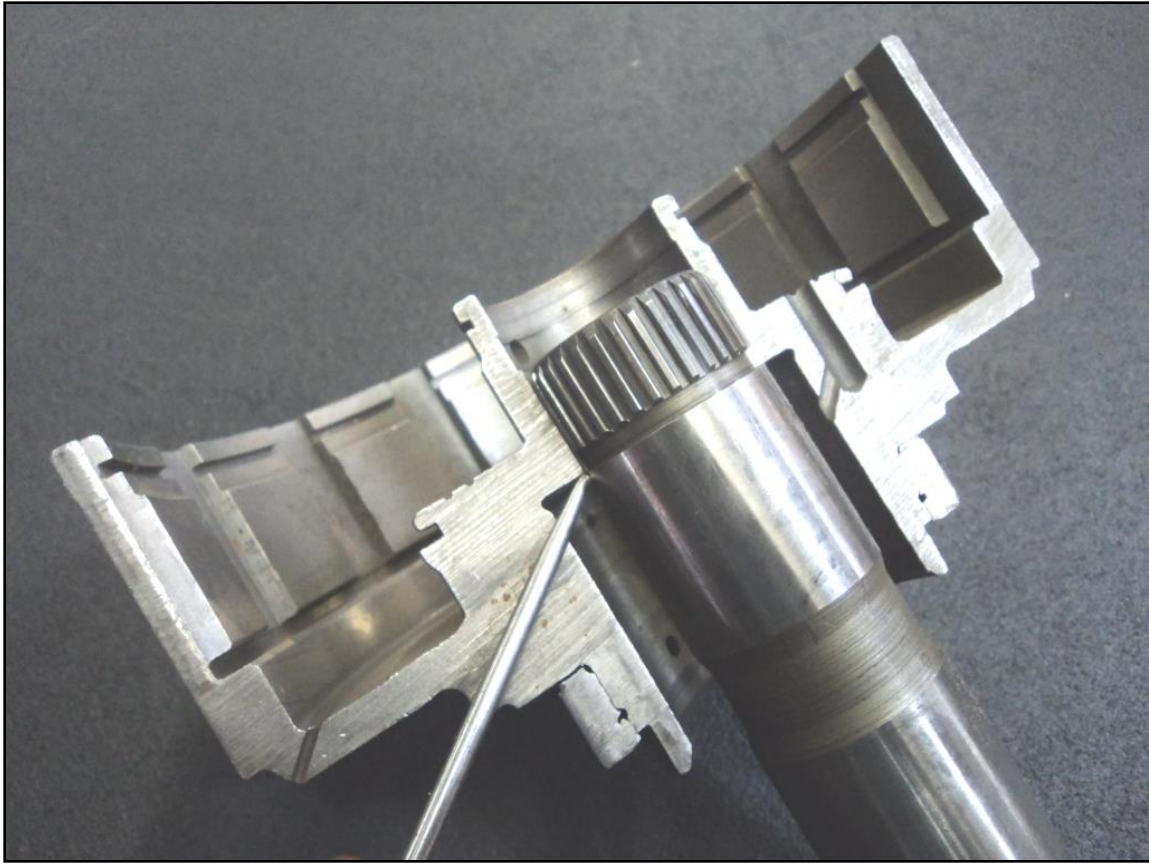
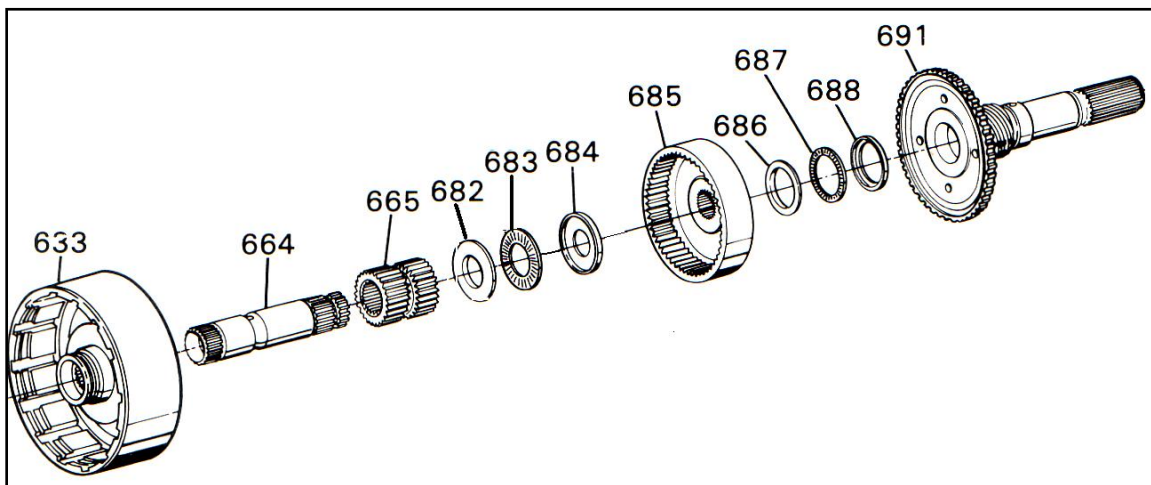

FIGURE 6-90
FIGURE 6-91
1. A thrust bearing assembly is fit between the front face of the forward clutch hub (616) and the front thrust surface of the direct clutch housing (633). This modification is shown in Chapter Three. This will divert rearward thrust being applied to the mainshaft to the direct clutch housing. This force is now transmitted to the sun gear shaft (664) at the interface between the direct clutch housing and sun gear shaft. This occurs because the front end of the sun gear shaft acts as a stop for the rear end of the direct clutch housing. See Figure 6-90. The force is then transferred from the sun gear shaft to the sun gear (665), on to the # 21 thrust bearing assembly (682,683,684), followed by the rear internal gear (685), and returning back to the #22 thrust bearing assembly (686,687,688) and output shaft to case thrust and selective washers (695,696). See Figure 6-91. At this point we have done nothing more than reroute the rearward thrust we are trying to eliminate, back to the #22 thrust bearing assembly whose durability we are attempting to improve. However, because we have diverted rearward thrust into the direct clutch housing, the housing can now be grounded to the center support, diverting all rearward thrust into the support. Grounding the rear of the direct clutch housing to the center support removes all rearward thrust at the interface between the housing and the front of the sun gear shaft.